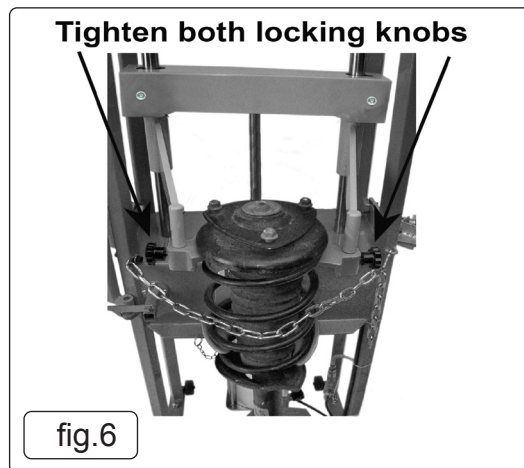

fig.6
- 5.9. **YOKES (K12, K13, K24):** Hang two of the yokes not being used to the sides of the frame and locate the third yoke onto the compressor using the locking pin to hold it in position (fig.6).
- 7.1.4. Having correctly positioned the spring on the lower and upper yokes, tighten both of the locking knobs (fig.6).
- 7.2.1. Offer the new strut spring up to the compressor's yokes and fit it in the same position as that of the old spring. Position the lowest coil of the spring in the lower yoke and rotate the spring, so that the coil is held as low as possible. Swing the small upper arms into position and locate the upper clamps on the uppermost available coil. Ensure that the coil is placed inside the recesses of the yokes to ensure that the coil will not break free under compression. Tighten the locking knobs (fig.6).